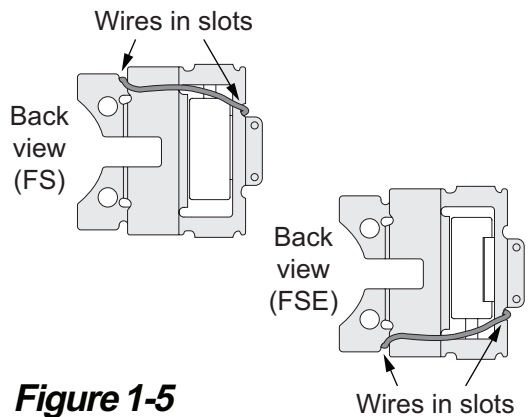

Figure 1-5
1.4. Route wires through bottom of bracket and into slots as shown below (Figure 1-5).